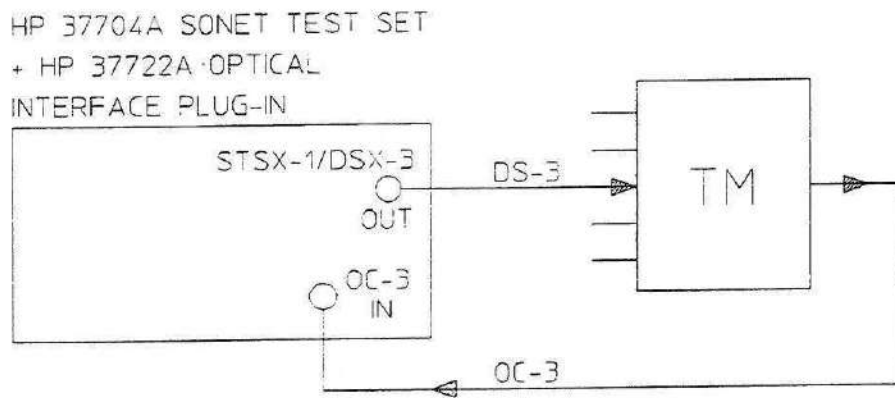

Figure 2-1. Payload Mapping
1. Connect the HP 37704A to the network equipment, as shown in Figure 2-1 and set up the **TRANSMIT** SETTINGS CONTROL display as shown below.